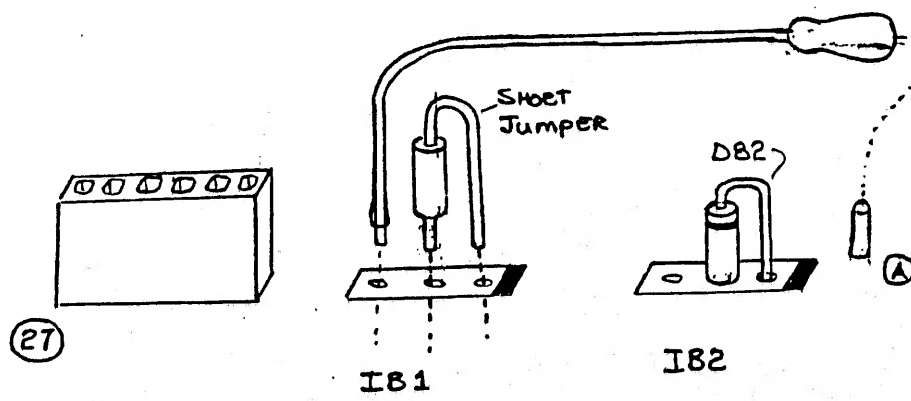

FIGURE 1
6. Locate the white jumper wire that is plugged on to the "S" terminal of the IF unit. Desolder the wire from its present location, and reinstall as shown in figure 1.
7. Install a short jumper wire, as shown in figure 1.
11. Check to see if D82 is installed, as shown in figure 1. If it is not, install it (1S1555). D83 should also be installed on the foil side of the board, as shown in figure 2.
12. Move the filter select jumper to the "A" pin, as shown in figure 1.